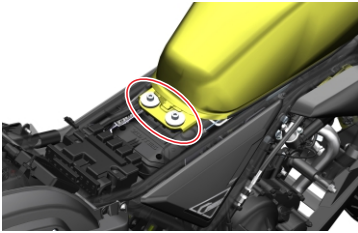

Figure 1
1. unplug the tail light connector (the connector is located on the right side of the bottom of the seat) and remove the seat; use a 6# hex to remove the two M8 bolts at the end of the fuel tank (Figure 1).